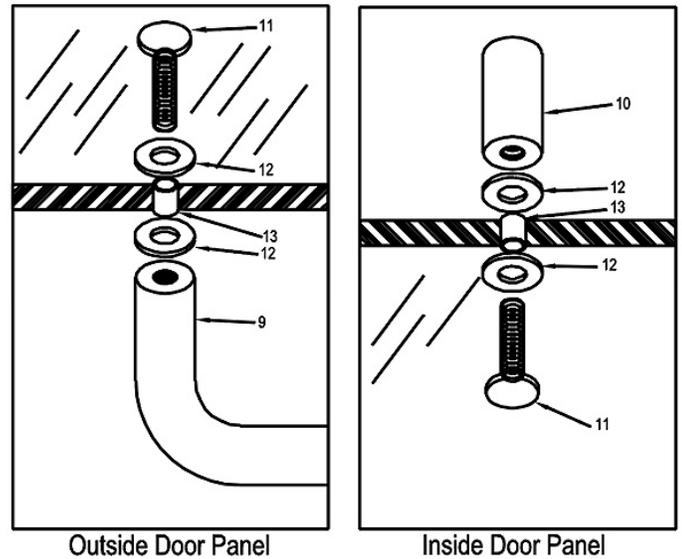

FIGURE 3
Place a nylon bar/pull washer on the towel bar/pull screw (11) and secure towel bar in place on both ends. Install the pull the same way the towel bar was installed. Use hole in fastener to tighten (See Figure 3).
10. Secure bumpers (4) in place with a #6-32 x 1/2" MS (5). NOTE: Glass panels close into the recessed portion of the bumpers. The recess is toward the inside of the tub on the shower head jamb, and toward the outside on the other jamb. From INSIDE of unit, drill #31 holes through header and into wall jamps, 1 1/16" from bottom of header. Secure header to wall jamps with two #6 x 3/8" screws (14). Secure header to wall jamps with two #6 x 3/8" screws (14).